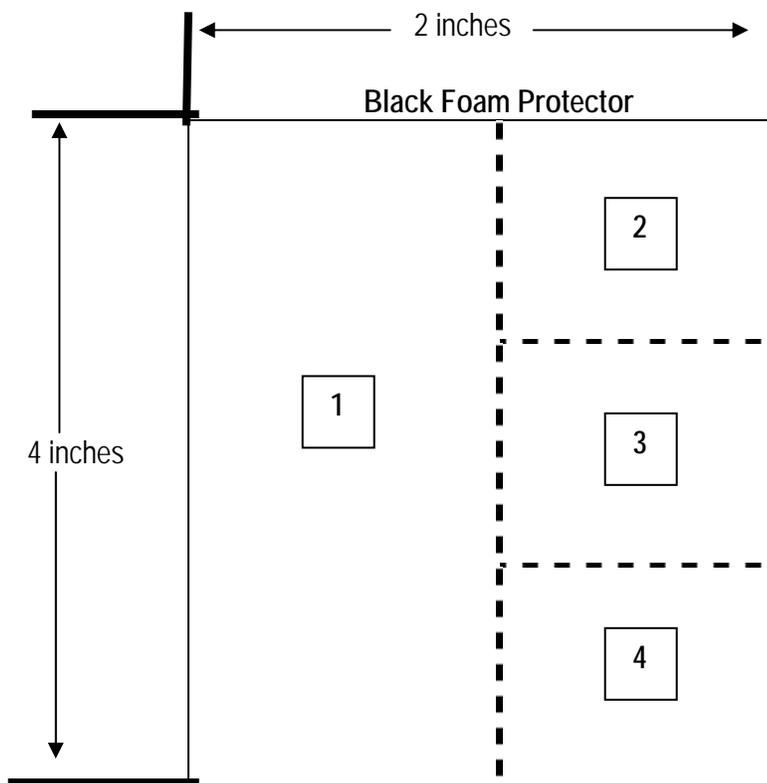

Figure 12
12. Cut one of the 2" x 4" black foam protector into 4 pieces as shown in Figure 12.